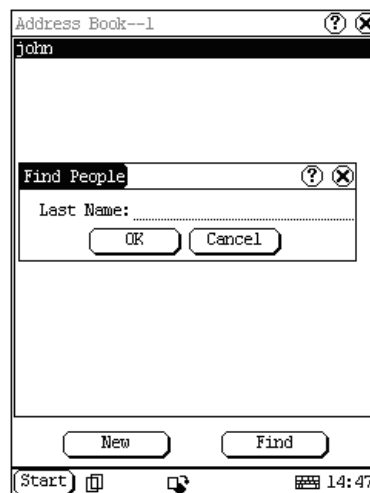

Figure 4-25
- 1) In the Address Book interface, click [Find] button to pop up the Find People interface. See Figure 4-25.